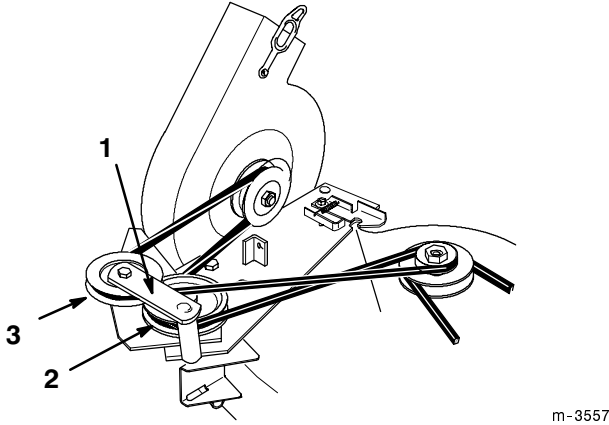

Figure 27
1. Open latch and swing the blower out away from the mower, remove the blower belt from idler and blower pulleys (Fig. 27).